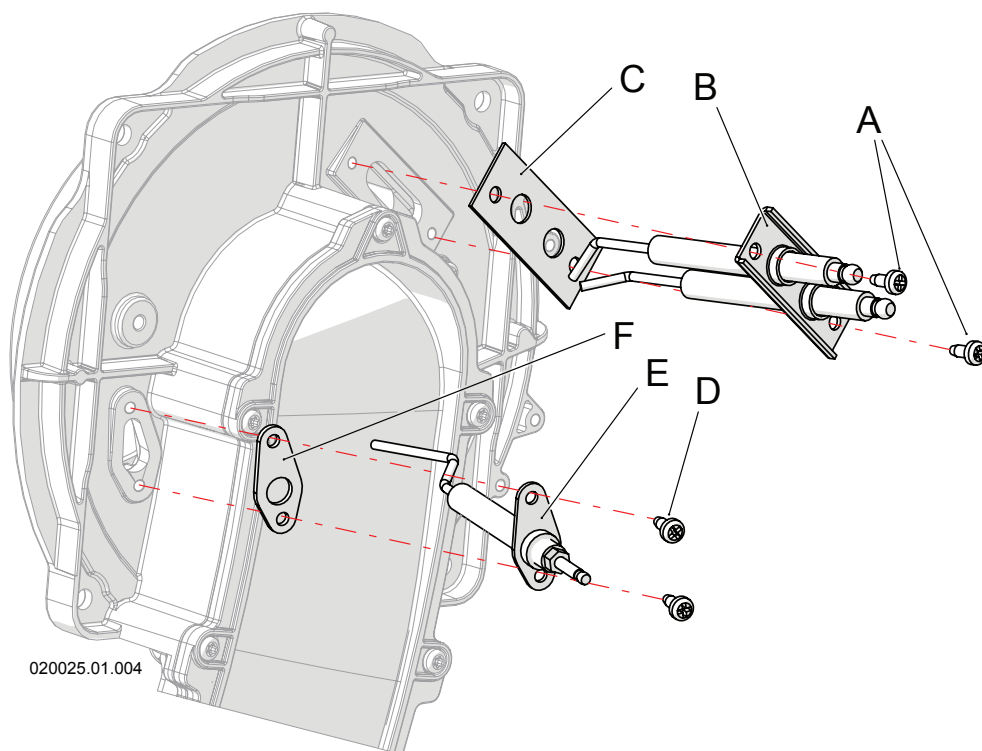

Figure 8-4 – Removing the electrodes
- 5.- Disassemble the electrodes to be replaced "B" or "E" by means of screws "A" or "D" in figure 8-4, taking care to remove seals "C" and "F";